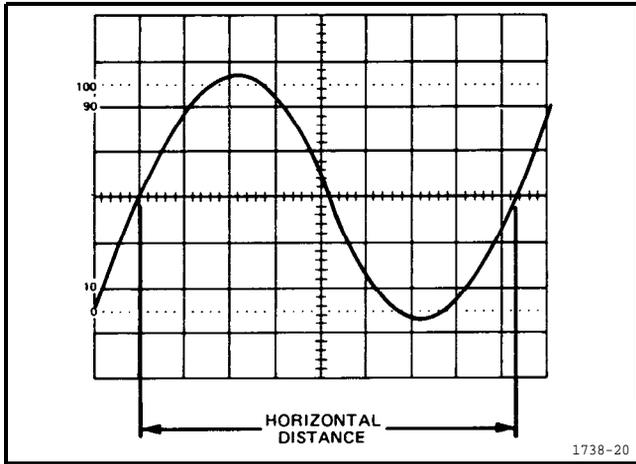

Figure 15. Time duration.
5. Position the display to place the time-measurement points on the center horizontal graticule line (see Figure 15).
**EXAMPLE:** The distance between the time-measurement points is 8.3 divisions (see Figure 15), and the SEC/DIV switch is set to 2 ins. The X10 Magnifier switch is pushed in (1 X magnification).
**EXAMPLE:** The signal in Figure 15 has a time duration of 16.6 ms.